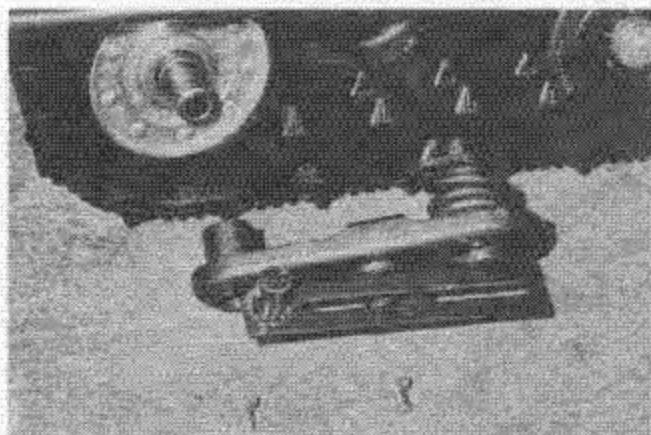

Fig. 42 — Rear Idler Shaft Bracket Removed
1. Loosen track tension and remove brackets from each side of rear idler shaft, Fig. 42. Remove idler wheels and shaft assembly.